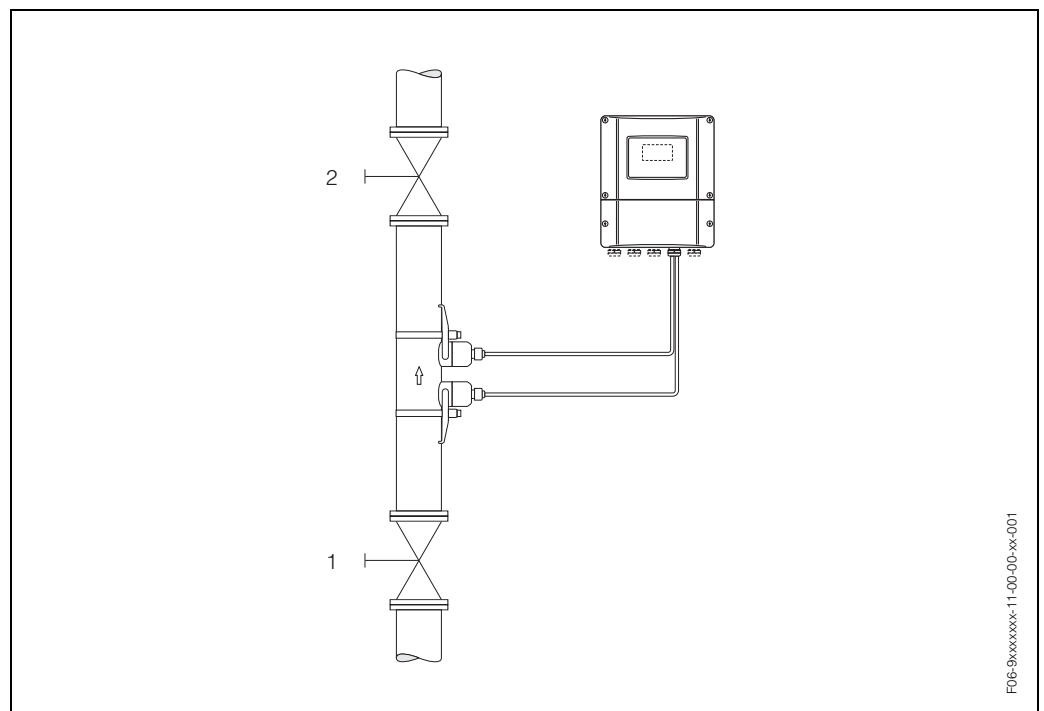

Fig. 69: Zero point adjustment and shut-off valves
- Zero point adjustment is performed with the pipe completely filled and at zero flow ($v = 0$ m/s). This can be achieved, for example, with shut-off valves upstream and/or downstream of the sensor or by using existing valves and gates (Fig. 69).